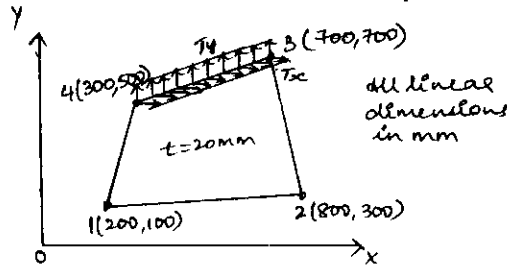

Fig.Q.5(a)
- 5 a. Determine the expressions for equivalent nodal forces for a quadrilateral element as shown in Fig.Q.5(a) using isoparametric formulation. Also find the numerical values of nodal forces if the element is 20mm thick, $T_x = 10\text{N/mm}^2$ and $T_y = 15\text{N/mm}^2$. (15 Marks)